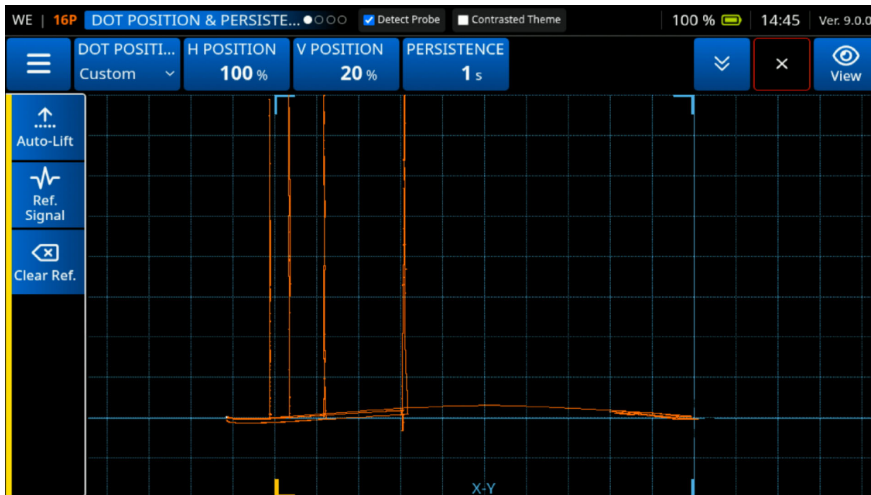

Figure 3-50 Press Ref Signal
7. Once complete, press **Fn** and **Ref Signal** (See Figure 3-50 on page 80).